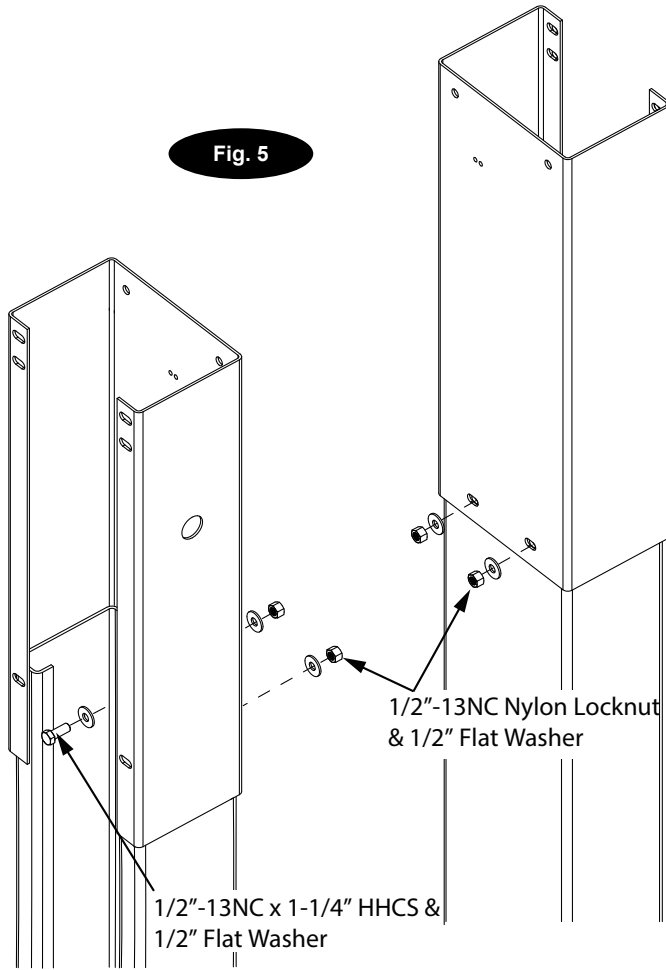

**Fig. 4**
**4. Power Unit Tee:** With the column still laying on the ground push the lift carriage as high as possible to install the power unit tee. Once carriage is raised, install the power unit tee and hoses to the column Fig. 4.